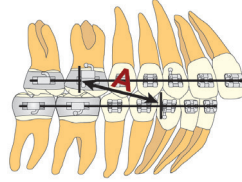

Figure 1.
- Measure from the distal edge of the lower cuspid bracket to the distal end of the upper molar facebow tube (Figure 1).
- See the chart below for measurement ranges (A) and part numbers.